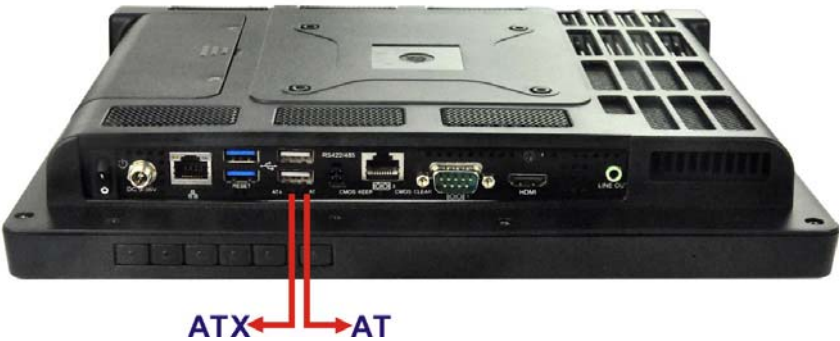

Figure 4-6: AT/ATX Switch Location
AT and ATX power modes can both be used on the AFL2-12A-HM65. The selection is made through an AT/ATX switch located on the I/O panel (**Figure 4-6**). To select AT mode or ATX mode, follow the steps below.
Step 1: Locate the AT/ATX switch on the I/O panel (**Figure 4-6**).